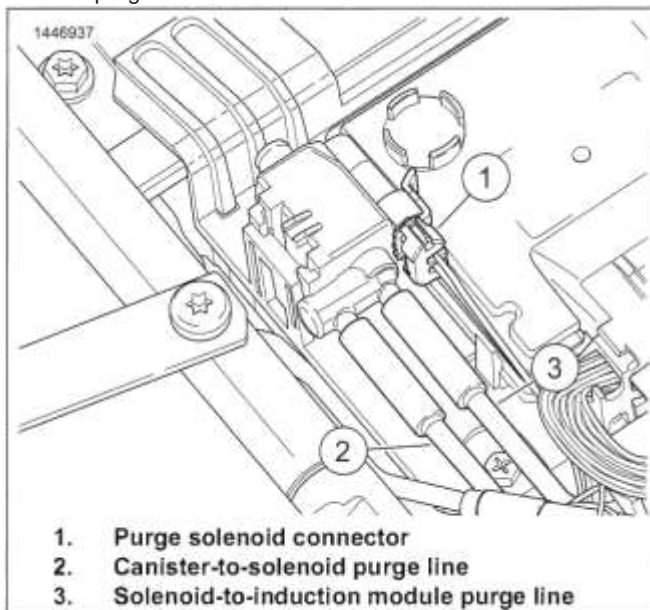

Figure 6-40. Purge Solenoid
1. See Figure 6-40. Remove purge solenoid connector (1).
- a. Remove solenoid-to-induction module purge line (3).
- b. Remove canister-to-solenoid purge line (2).
1. See Figure 6-40. Install purge lines.
- a. Install canister-to-solenoid purge line (2).
- b. Install solenoid-to-induction module purge line (3).
2. Install purge solenoid connector (1).